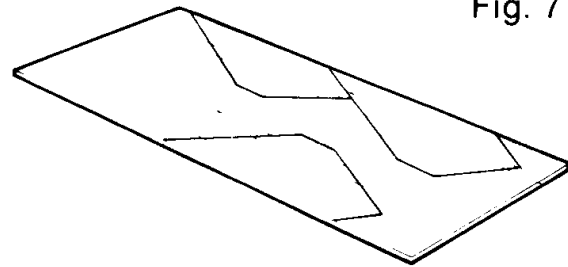

Fig. 7
- B Trace the pattern onto the balsa fin sheet using the fin layout shown (Fig. 7). Be very careful that the balsa grain direction is as shown on the pattern.